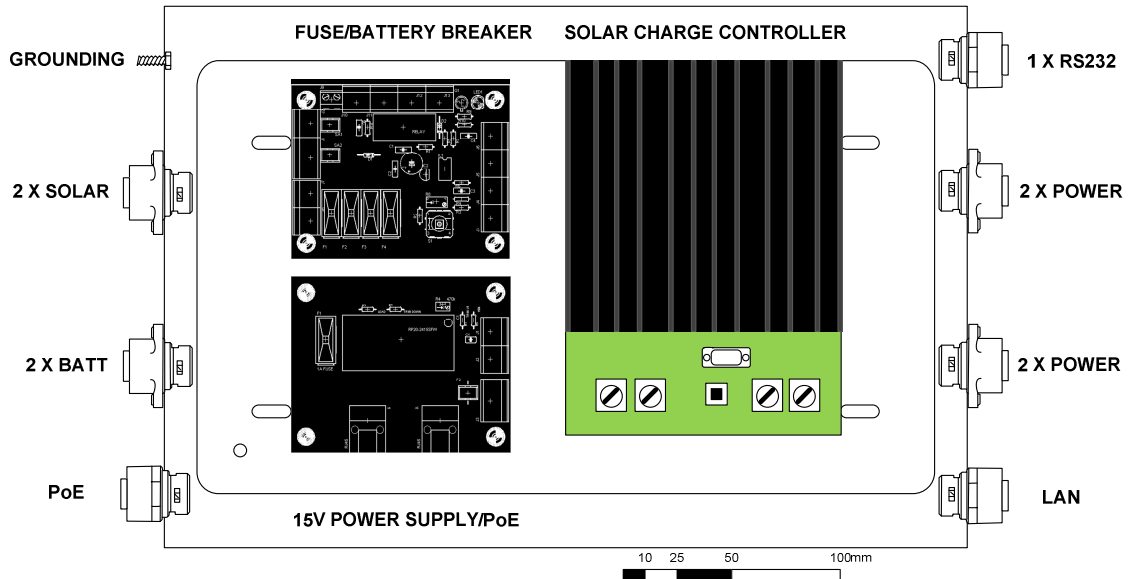

Figure 3.3 – Components distribution at the mounting plate and PeliCase box.
d) Fix the solar charge controller and the two electronic boards as showed in the figure 3.3.